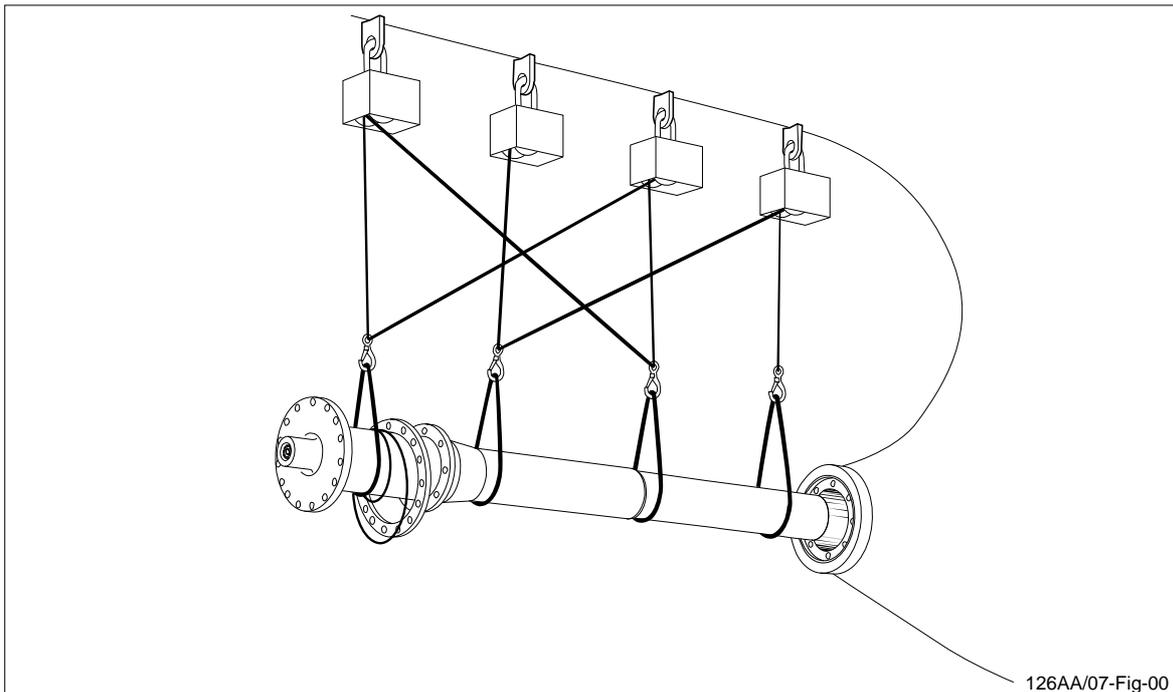
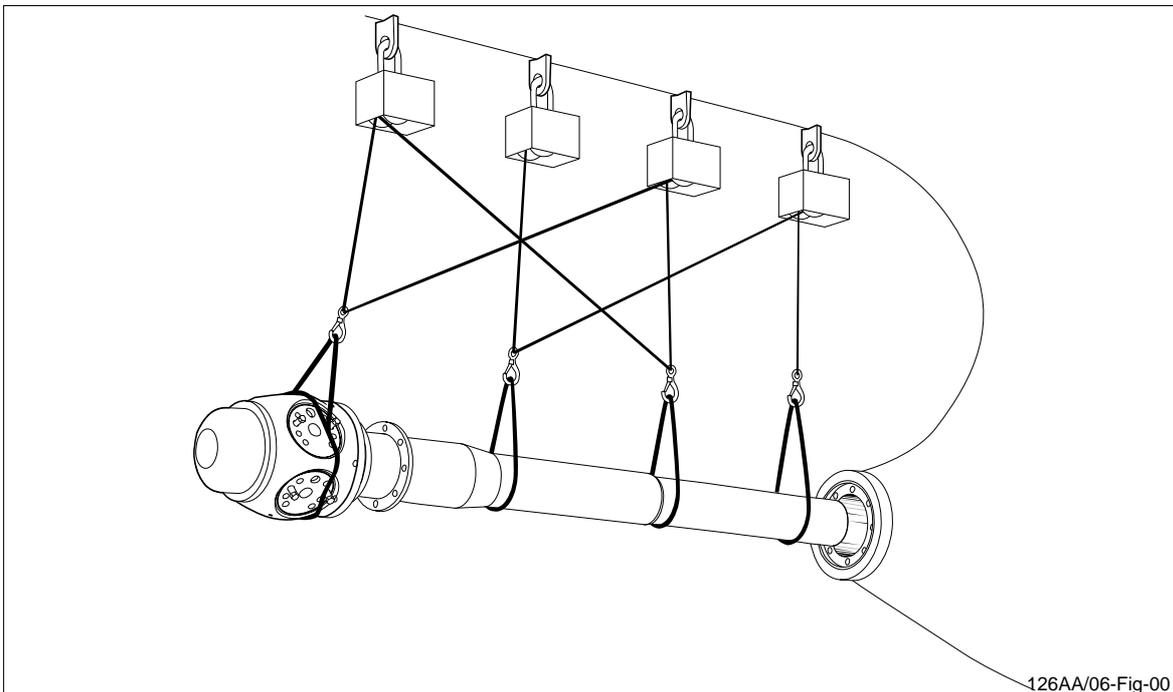

Figure 7 *Lifting of propeller shaft with necessary hub mounting equipment.*
Figure 8 *Lifting of propeller shaft with propeller hub mounted.*
- Lift the propeller shaft in chain blocks just in front of the stern tube hole as shown in figure 7 and figure 8.